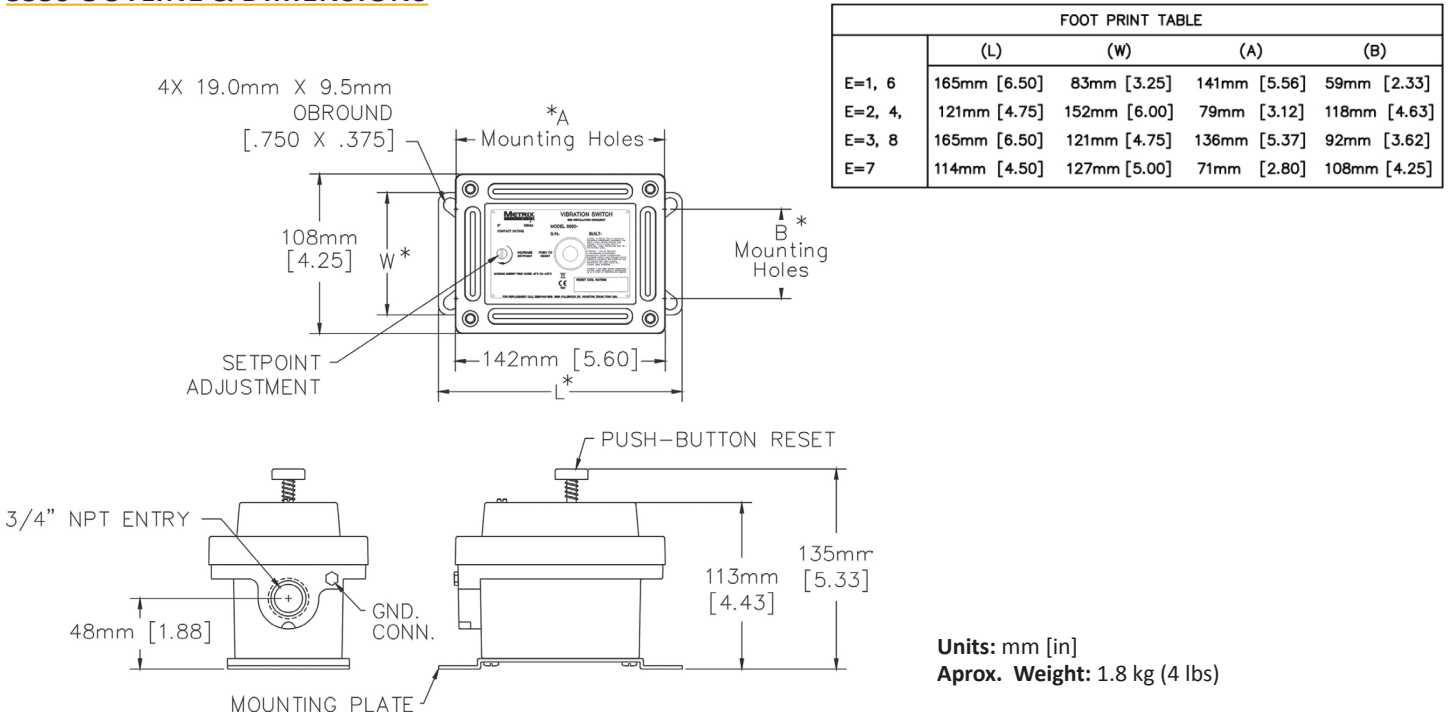
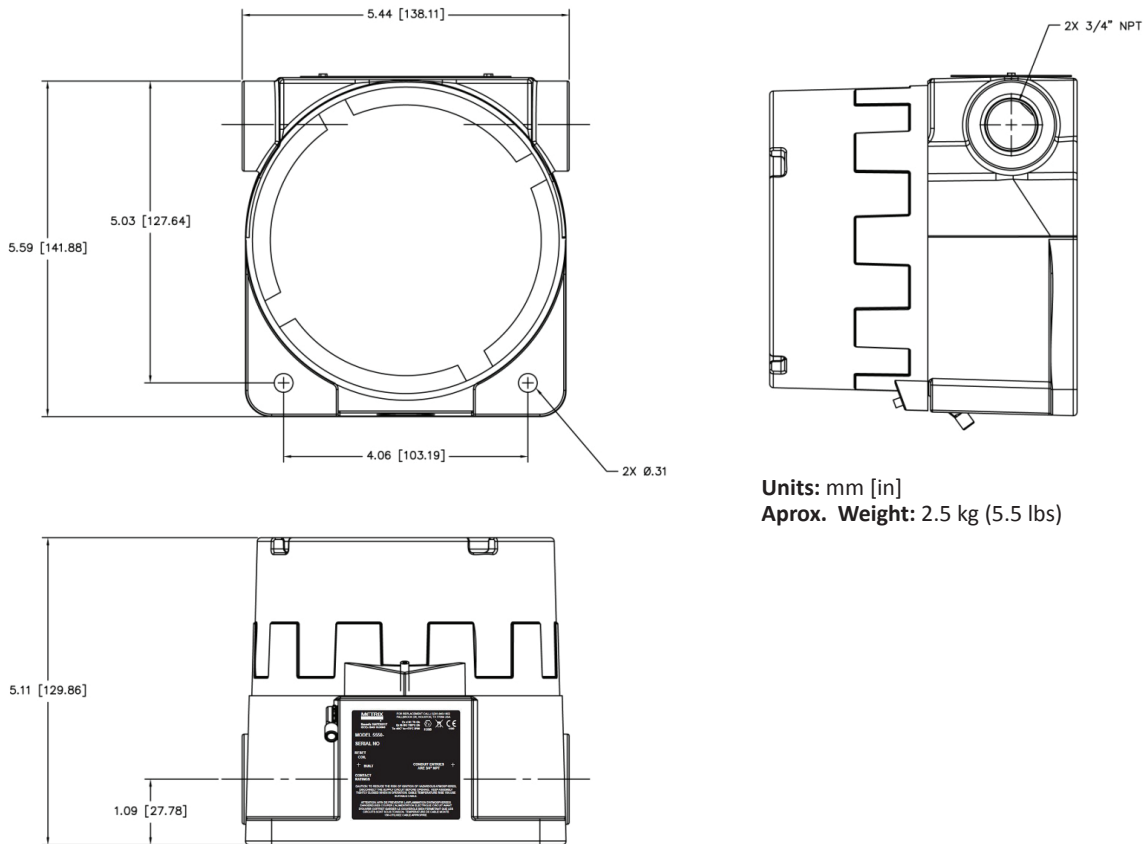

Figure 1 – 5550 Mechanical Vibration Switch
Figure 2 – 5550G Mechanical Vibration Switch
| Mounting                                | 4-hole rectangular in various dimensional options (see Figure 1 and ordering option E)   | 2-hole rectangular (see Figure 2)  |                      |                    |                   |              |                  |  |                  |  |                |  |                 |
- When options C=2 and D=3 are simultaneously specified (2g, 24Vdc reset coil), the switch sensitive axis (see Figure 1 for 5550 and Figure 2 for 5550G) MUST be oriented vertically with the cover facing up. This coil lacks sufficient holding strength to support the trip plate when the switch is mounted horizontally or upside down. The switch may be mounted at any orientation for all other options.
- Consult Figure 1 for mounting plate dimensions corresponding to E options.
- Consult Figure 2 for mounting dimensions.